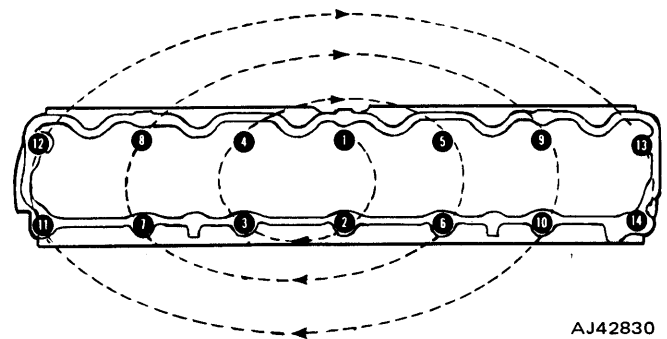

Fig. 1A-14 Cylinder Head Torque Sequence
(4) Apply an even coat of Perfect Seal sealing compound or equivalent to both sides of new head gasket and position gasket on block with the word TOP facing upward.
(5) Install cylinder head. Tighten bolts (in sequence) to 105 foot-pounds torque (fig. 1A-14).